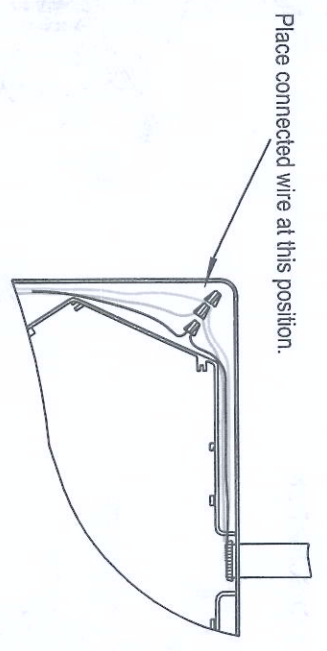

Fig. 6 Connect and trim wires
2. Connect and trim input wires to unit wires at upper left corner of housing. (See Fig.6) For proper wire connection, see "ELECTRICAL CONNECTIONS" below.